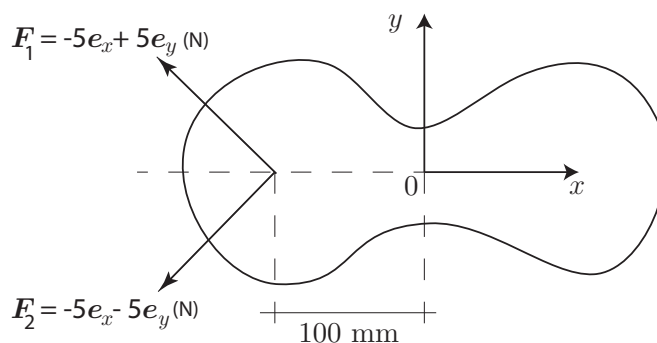

Figure 1: Problem 1.
1. Compute the total resultant force, $\mathbf{R}$, and resultant moment, $\mathbf{M}_R^{(0)}$ (about the origin), for the two-dimensional object shown in Fig. 1.